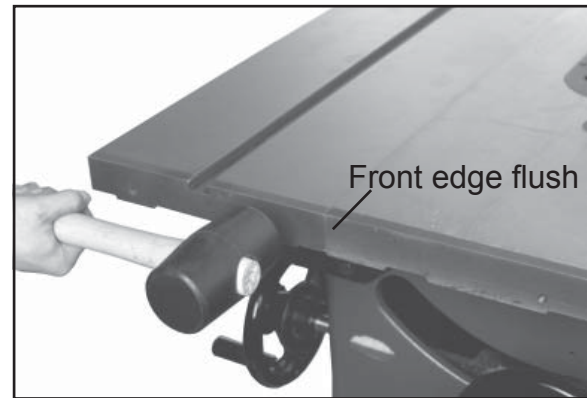

Figure 2
2. Align table wing toward the front edge of the saw table until the two faces are flush. Figure 2.